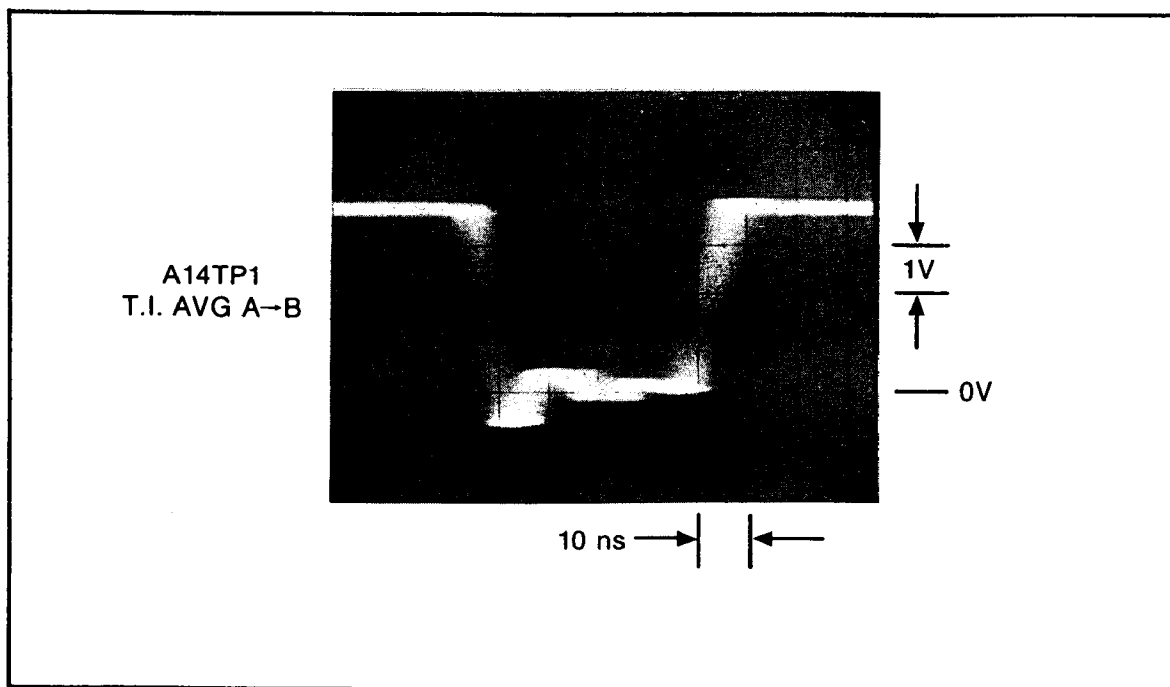

Figure 5-5. TTL 10 MHz Time Base Waveform
- e. Observe the 10 MHz signal at A14TP1 with the oscilloscope (still externally triggered). Observe approximately 8 nanoseconds peak-to-peak jitter on the TTL 10 MHz signal as shown in *Figure 5-5*.